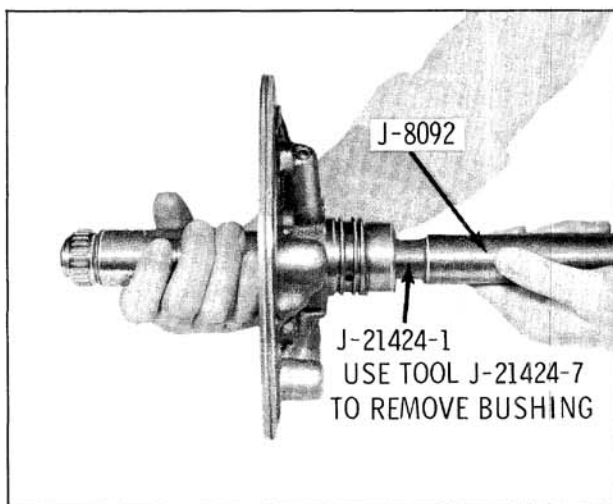

Fig. 6-417 Removing Stator Shaft Bushing
14. Check stator shaft bushing for nicks, severe scoring or wear. If bushing replacement is necessary, proceed as follows: Assemble Bushing Remover J-21424-7 to Extension J-21424-1. Assemble this assembly to Drive Handle J-8092. Holding stator shaft as shown in Fig. 6-417, drive out bushing.